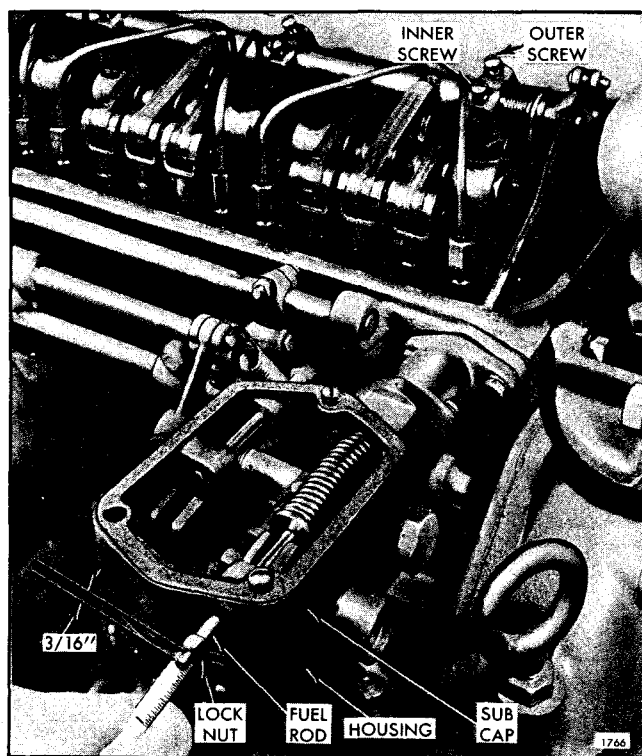

Fig. 1 - Adjusting Fuel Rod
1. Remove the governor cover. Refer to Fig. 1 and loosen all of the inner and outer injector rack control lever adjusting screws. Be sure all of the control levers are free on the injector control tube.